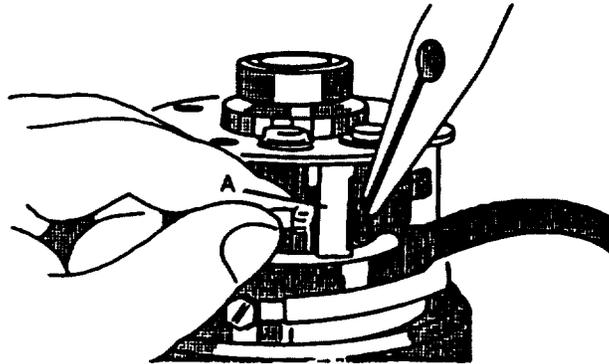

FIGURE 3-16. Removing Brush Holder Assembly
- b. Disconnect yoke assembly lead wire (6) at magnetic switch assembly (24).
- c. Remove two through bolts (7), lockwashers (8), washers (9), and preformed packings (10). Discard lockwashers (8) and preformed packings (10).
- d. Remove two screws (11) and starter end frame (12). Remove yoke assembly (38).
- e. Lift brush springs and remove brushes from brush holder (13). Remove brush holder assembly (13), refer to FIGURE 3-16.
- b. If removed, install nuts (26 and 27), washers (28 thru 30), lockwashers (31 and 32), and screw (25)
- c. Apply general purpose grease (630AA) to retainer (20), rollers (21), overrunning clutch (17), steel ball (18), spring (23), and bearings (33 and 34).
- d. Install washer (22) and spring (23) in magnetic switch assembly (24).
- e. Install five rollers (21), retainer (20), and starter pinion (19) in housing (16).
- f. Place steel ball (18) in overrunning clutch (17) and install both in housing (16).
- g. Position assembled housing (16) on magnetic switch assembly and secure with three screws (15). Tighten screws 5.1 to 8.7 ft-lbs (6.9 to 11.8 Nm).
- h. Install armature (14) in magnetic switch assembly (24).
- i. Position brush holder (13). Lift springs and install brushes, refer to FIGURE 3-16. Ensure negative brushes (connected to brush holder) are installed in negative holes (not insulated) and positive brushes (connected to yoke) are installed in positive holes (separated from plate with insulator). Ensure positive brush leads are not grounded.